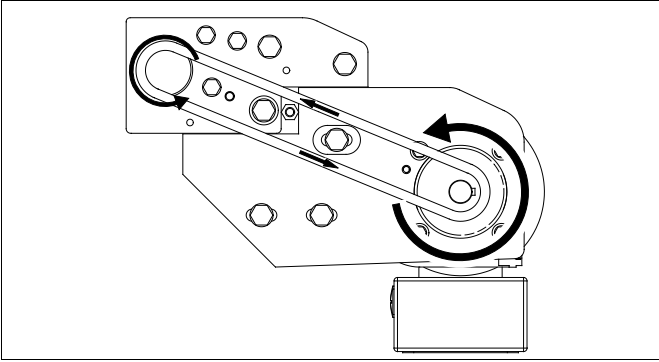
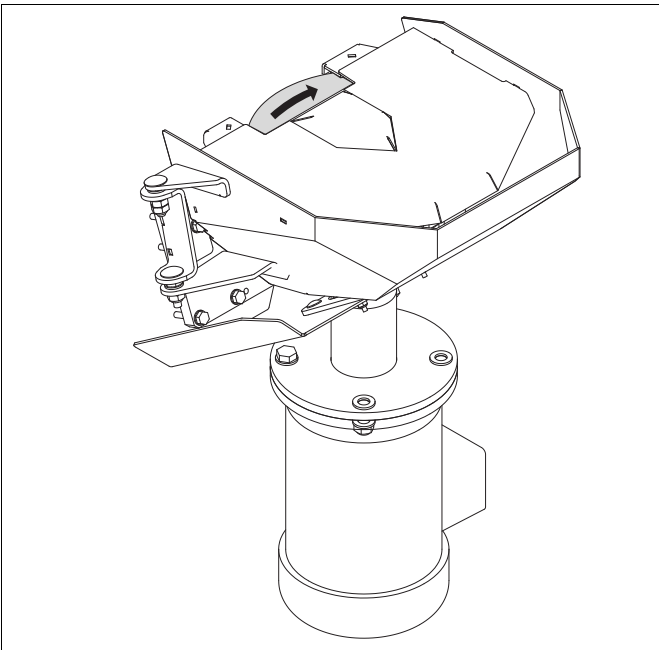

fig. 10 Direction of rotation of the rollers
fig. 11 Direction of rotation of the blade
- After connection operations, check the directions of rotation of the rollers (intestine stretcher and gall-bladder positioning sections) and the blade. See fig. 10 and fig. 11.